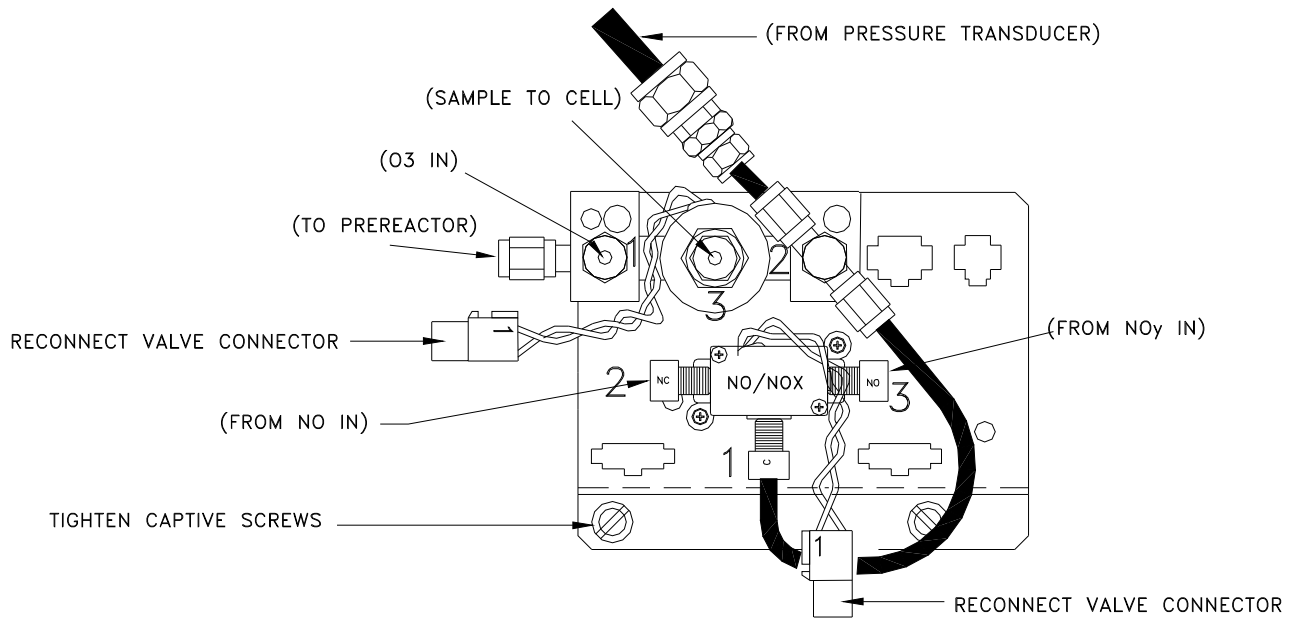

FIGURE 4
4. Connect all of the tubing from the valve assembly as shown in Figure 4 use the DELRIN wrench provided in the KIT to tighten the fittings on the new valve.